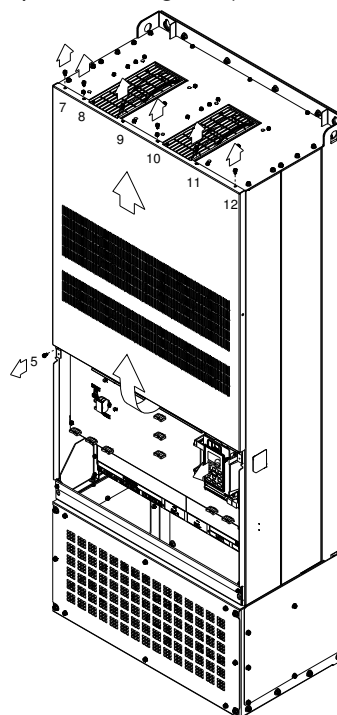

Figure 2
(2) Loosen the screw and remove the top cover (figure 2). Screw torque: 24~26kg-cm (20.8~22.6lb-in).